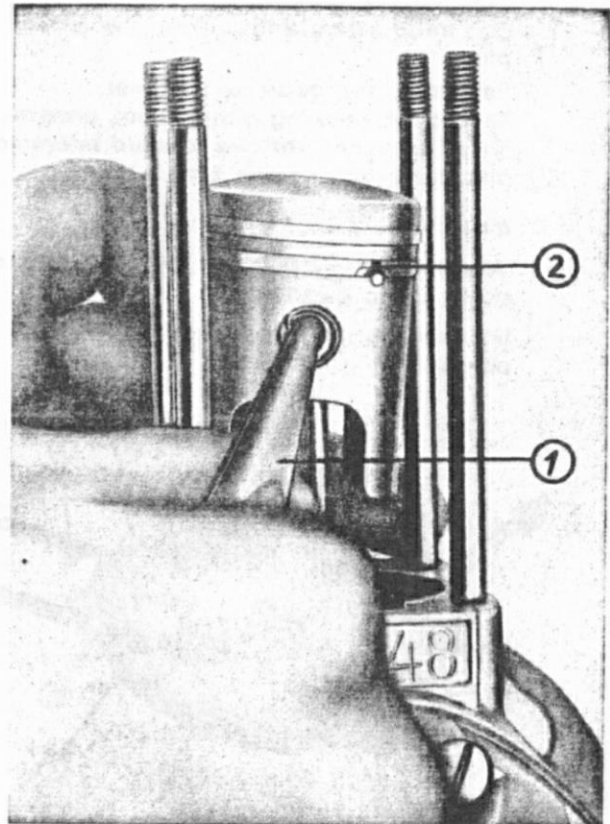

Fig. 4: Removing the circlip securing the gudgeon pin
3. Remove circlip from piston (Fig. 4) by a rotary movement, using flat-nose pliers (Fig. 4/1), push out gudgeon pin, and detach piston. (Do not knock out the gudgeon pin forcefully!)